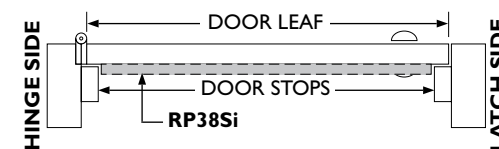

FIG.4
- STEP 3** Machine cut RP38Si less 5mm to allow morticing of escutcheon plates. Cut back latch side only. Remove any burrs. (**FIG.1 & FIG.2**) Cut gasket with a sharp wet knife. (**FIG.4**)
- STEP 4** Drill and countersink mounting holes in housing flange to suit 8 gauge screws supplied. (**FIG.4**)
- STEP 5** Wind adjustment nut clockwise until it returns fully back into housing. (**FIG.4**)